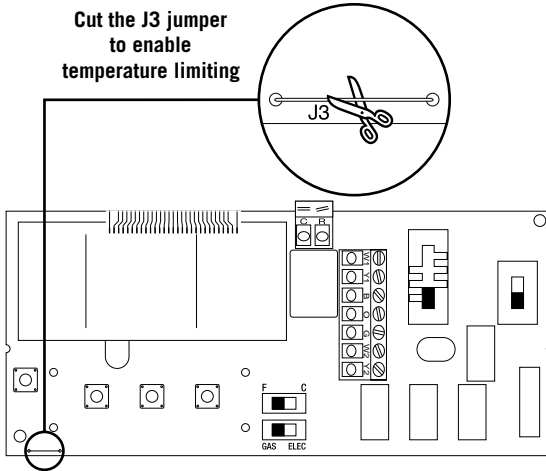

Figure 7
16. A temperature limiting jumper has been included in this thermostat. Cutting this jumper (J3) limits the heating setpoint to no greater than 72°F and the cooling setpoint to no lower than 78°F (Figure 7).
NOTE: IF THE TEMPERATURE LIMITING JUMPER J3 IS CUT (FIGURE 7), THE DEADBAND IS NOT ADJUSTABLE AND IS AUTOMATICALLY SET TO 6°F (3°C).